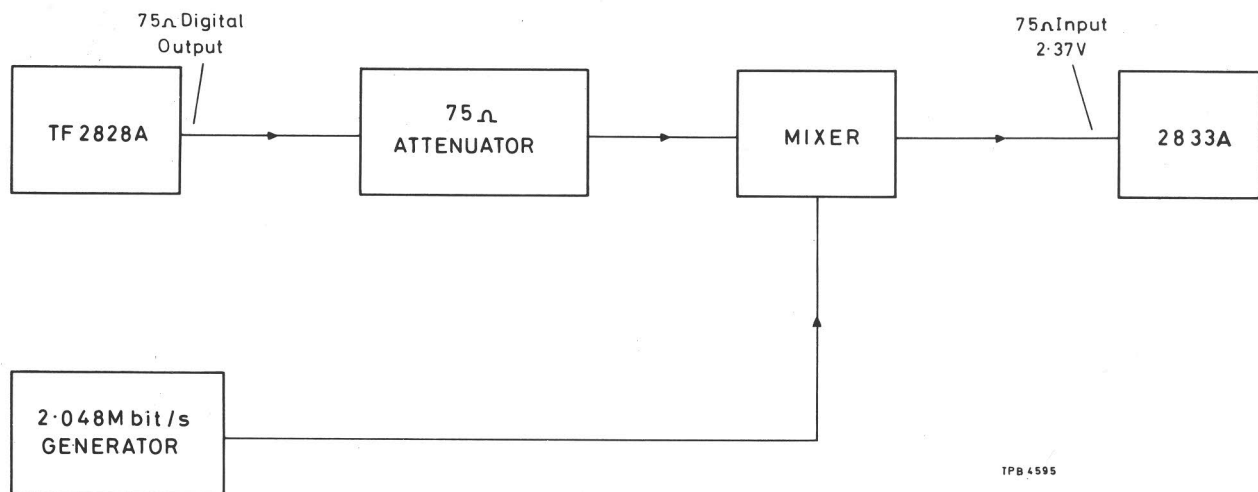

Fig. 10 Measuring interference immunity at 2.048 Mbit/s
- (1) Connect the test equipment as in Fig. 10.